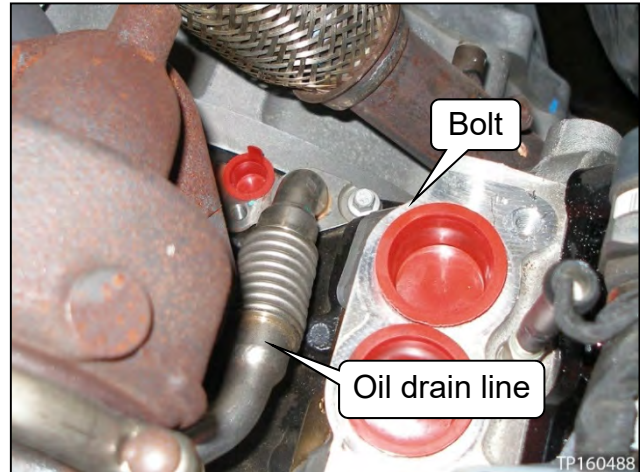

Figure 54
40. Unfasten the oil drain line bolt (see Figure 54).